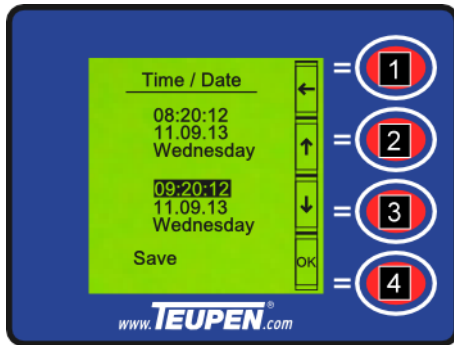

Fig. 71: Time setup
1. Use the [function keys] (Fig. 71/2 and 3) to select the desired setting.
2. Use the [function key] (Fig. 71/4) to confirm the selected setting.
3. Use the [Function key] (Fig. 71/2) to increase the value of the desired setting.
Use the [Function key] (Fig. 71/3) to decrease the value of the desired setting.
4. Use the [function key] (Fig. 71/4) to confirm the value.